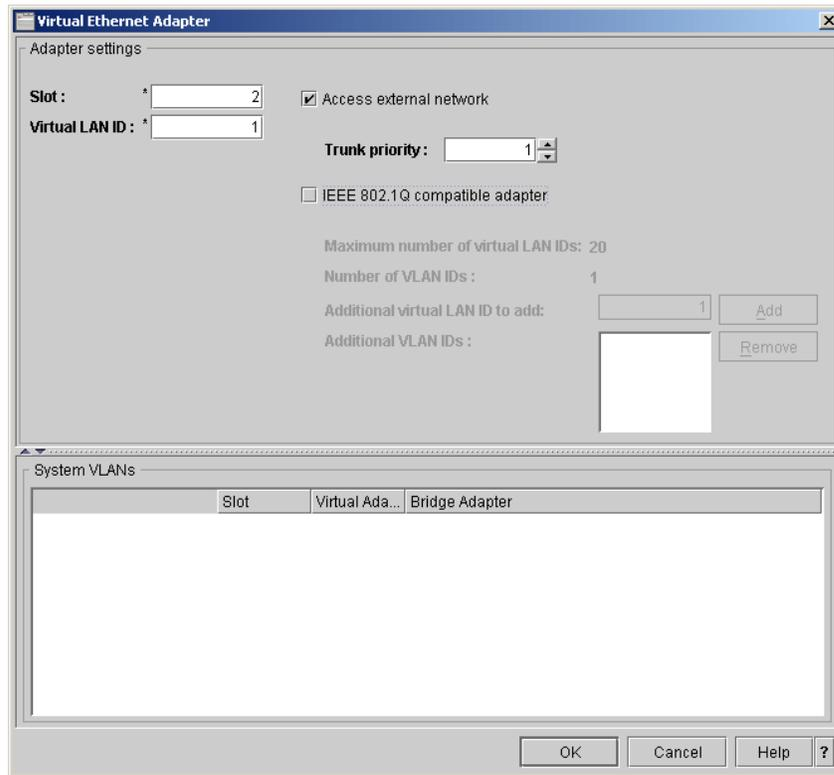

Figure 3-14 Virtual Ethernet properties
2. Click the **Create adapter** button and enter the settings. In the virtual Ethernet adapter properties, choose the slot number for the virtual adapter and virtual LAN ID, and then select the **Access External network** check box to use this adapter as a gateway between VLANs and an external network. This virtual Ethernet will be configured as a shared Ethernet adapter (see Figure 3-14).